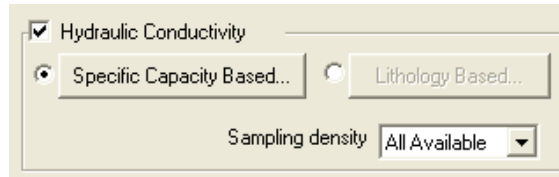

Figure 22-35 Selecting the Method for Calculating Hydraulic Conductivity
- 2) Using the hydraulic conductivity estimated on the basis of aquifer lithology (**Lithology Based...**). These methods are selected by checking the **Hydraulic Conductivity** box and then selecting either radio button shown in **Figure 22-35**.